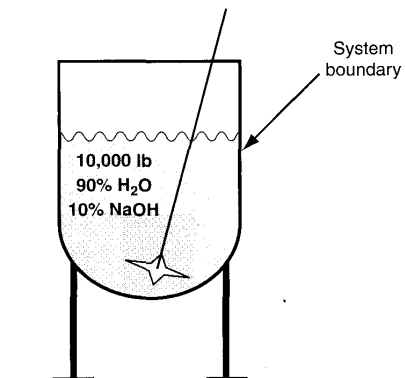

Figure 13b Condition of a semi-batch mixing process after 1 hour of operation.
- ☒ A **figure 13** illustrates a **semi-batch mixing process**. Initially the vessel is empty (**Figure 13a**). **Figure13b** shows the **semi-batch system** after **1 hour** of operation. **Semi-batch processes** are **open** and **unsteady – state**.